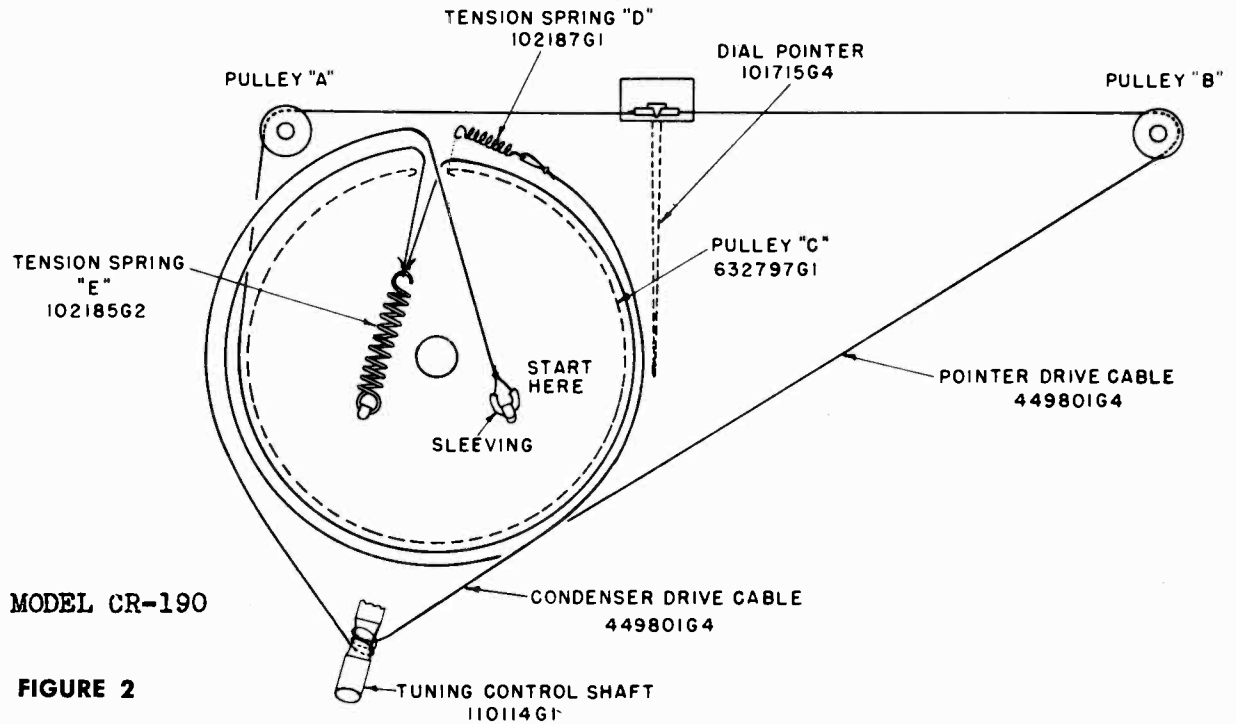

FIGURE 2
2. If a vacuum tube voltmeter is available, connect it across the 220,000 ohm resistor in the grid circuit of the 6SH7 limiter tube at points designated "A" and "X" on the schematic diagram (Figure 2) to measure the limiter grid bias voltage. Set the signal generator to exactly 10.7 megacycles and adjust the third, second and the first i-f transformer trimmers in that order for maximum reading on the meter. A reading of 2 to 8 volts should be considered normal.
CR-190B Condenser Drive Cable Replacement—Slide a short length (approximately 1/2-inch) of sleeving over one end of a 19-inch length of dial cable, form a small loop and tie a knot in the manner shown on Figure 2. Hook this loop over the metal hook in pulley "C" and lace the cable through the pulley slot and around the pulley in a counter-clockwise direction when viewed from the rear of the panel, keeping the cable to the rear of the pulley groove. Lace the cable in the direction indicated by the arrow on Figure 2 wrapping 2 1/2 turns around the opposite side of pulley "C". Loop one end of tension spring "D" on the right-hand edge of the slot in pulley "C"; thread the free end of the drive cable through the opposite end of spring "D" and pull back on the cable until the spring coils are stretched to approximately one inch. Tie a double knot in the cable while maintaining tension on the spring, completing the operation.